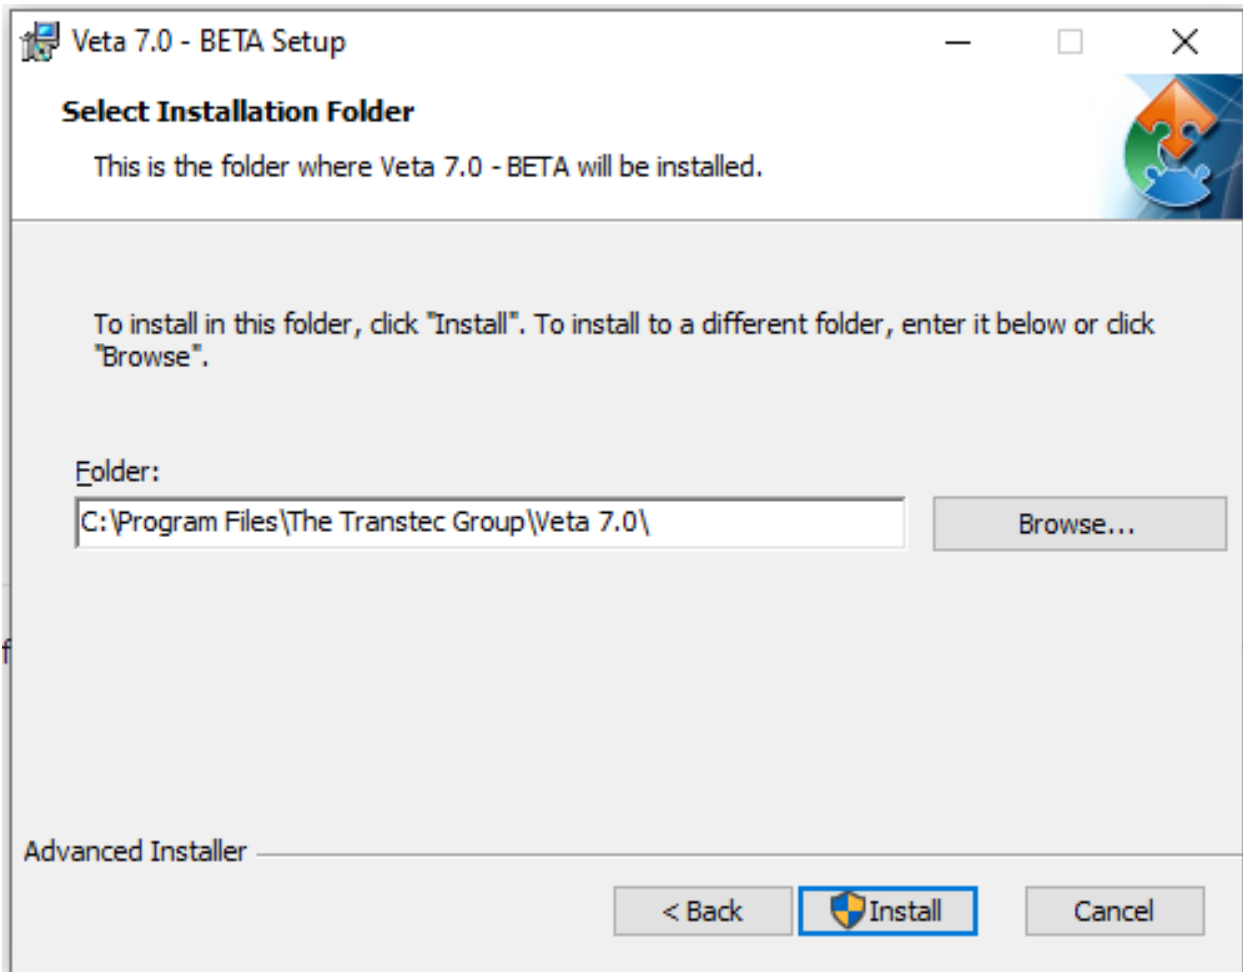

Figure 3. Installation folder window.
Step 3. The “Select Installation Folder” prompts you to either use the default installation folder (recommended) or select a different folder (reference Figure 3). Click the Install button to complete the process.